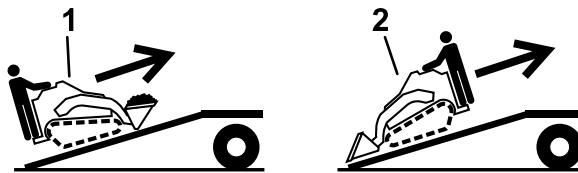

Figure 24
5. Load the machine onto the trailer with the heavy end up the ramp, carrying loads low (Figure 24).